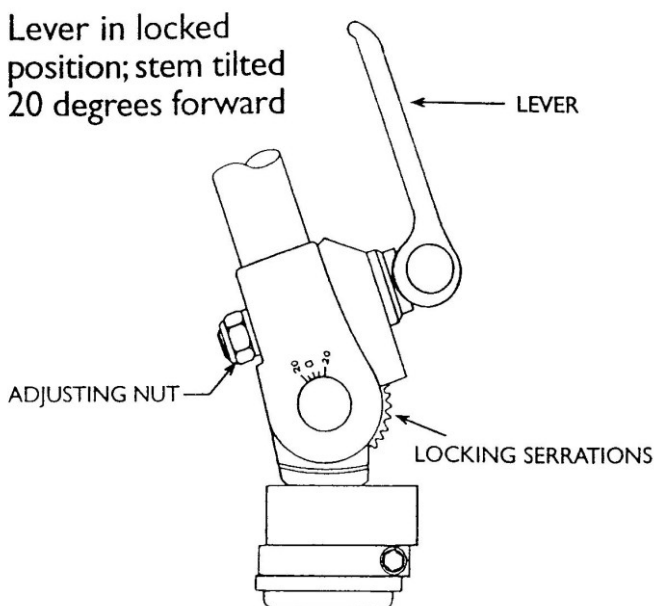

FIG. 2-2
Ensure the tilt mechanism locking serrations are aligned before fully engaging the locking lever. See Fig. 2-2. Failure to follow this step could cause clamp failure while you are riding, resulting in a loss of control!
- E)** At this point you can adjust the handlebars forward or rearward using the tilt mechanism, then repeat steps A) thru D) above as needed (see Fig. 2-2).